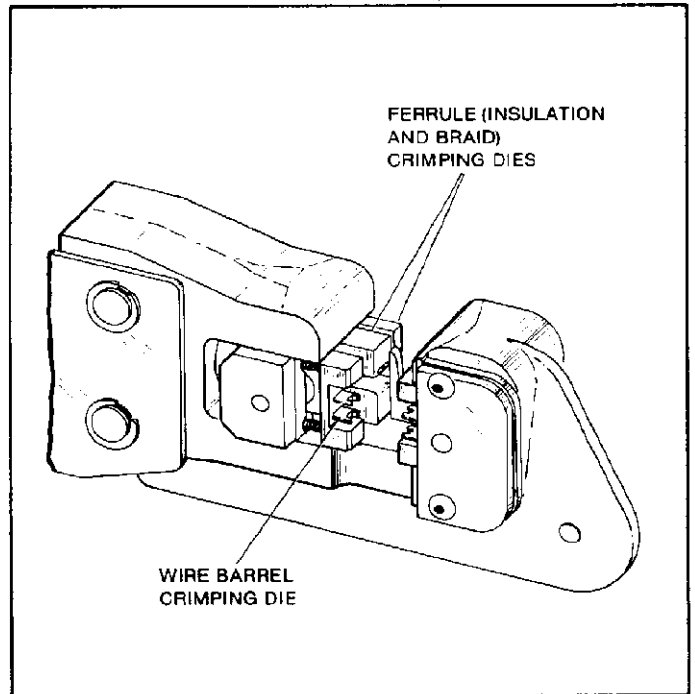

Figure 2
- Die assemblies have three sets of crimping dies—one for inner wire barrels of contacts, one for braid section of ferrule and another for outer insulation section of ferrule. See Figure 2. All three crimps are made at the same time.